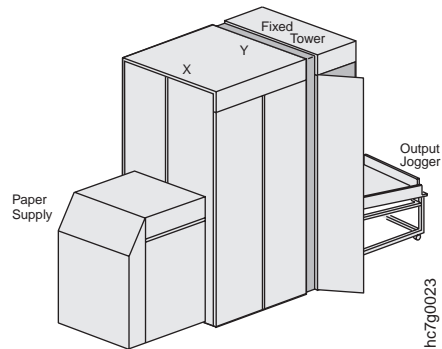

Figure 295. Right Side View of the InfoPrint Color 100
- Open the fixed tower door on the right side of the machine, as shown in Figure 295.